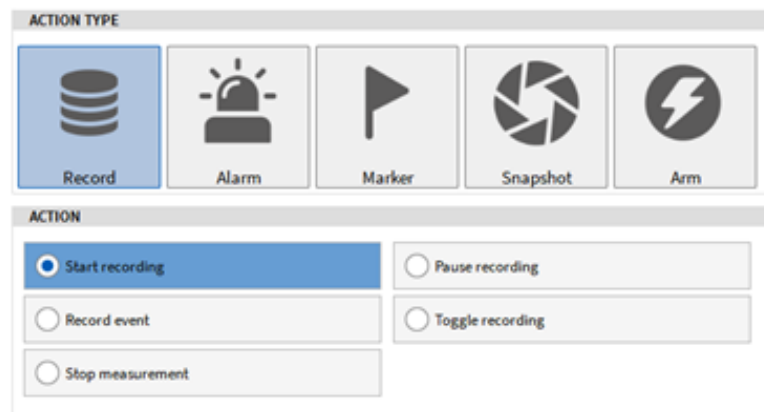

Fig. 9.28: Start Recording Action Type
- Select *Start recording* as Action Type (see Fig. 9.28):